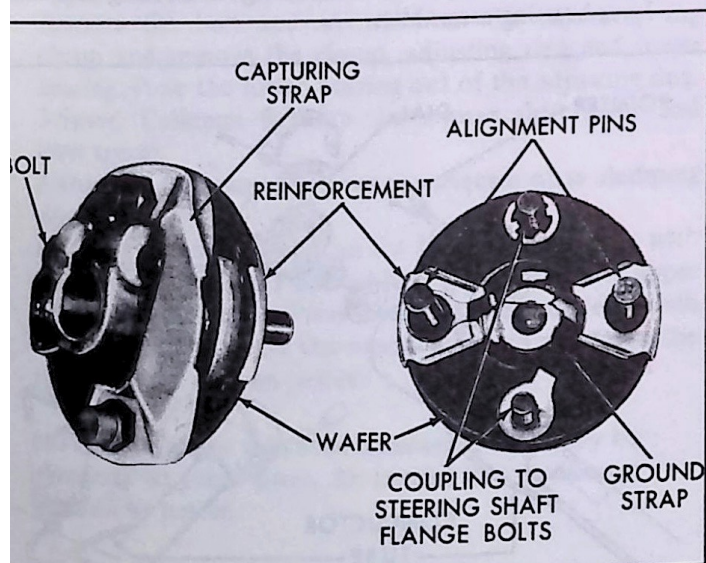

Fig. 8—Flexible Type Steering Coupling
1. Install the new coupling onto the wormshaft, aligning the flat on the shaft with the flat in the coupling. Push the coupling onto the shaft until the coupling reinforcement bottoms on the shaft. Install the coupling clamp bolt and torque to specifications (fig. 8).